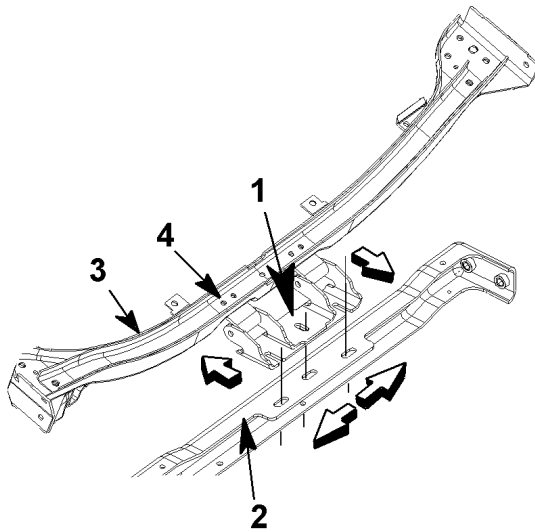

Figure 49 Hood Hinge Adjustment
2. To adjust hood forward and back (reference Figure 49), loosen the hinge mounting bolts at the mounting plate (Item 1) on the chassis front cross member (Item 2).